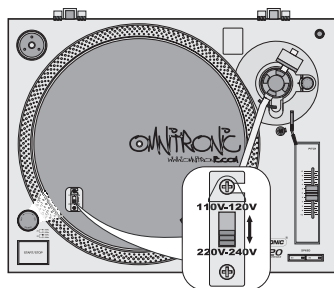

Fig. 7: Voltage selection
- 2 Connect the mains plug to a socket (230 V AC, 50 Hz ~). The unit can also be operated with 115 V AC, 60 Hz ~. For this purpose, set the voltage selector switch underneath the platter to the upper position 110-120 V (Fig. 7).